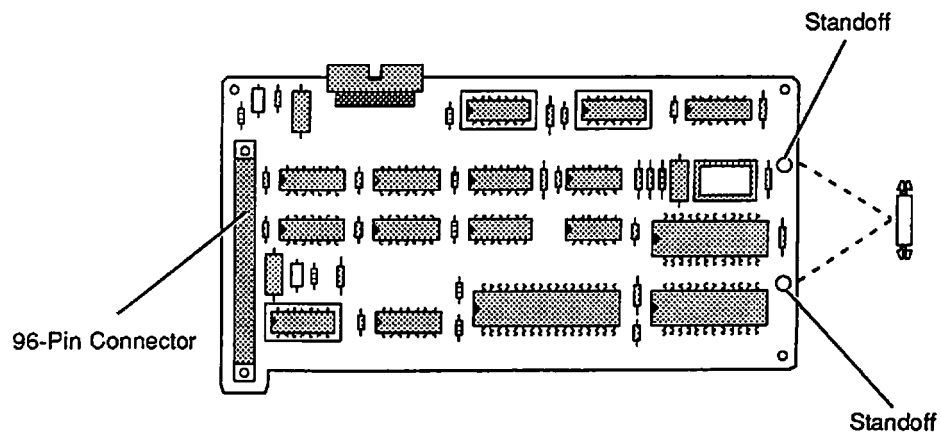
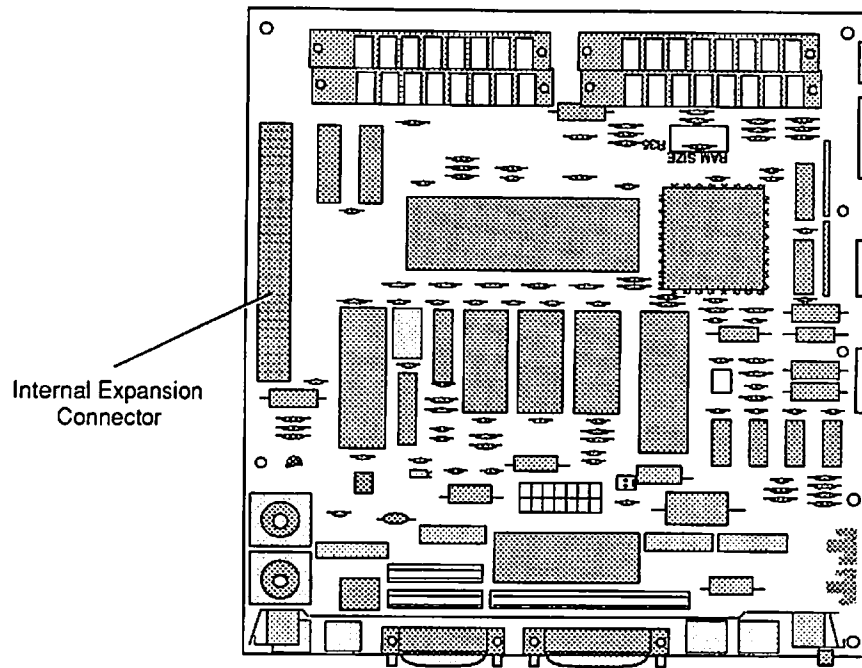

Figure 5-4 Positioning the Card
Figure 5-5 Logic Board
5. **Figure 5-4.** From the component side of the card, push the two plastic standoffs into the mounting holes until they snap into place.
6. **Figure 5-4.** Locate the 96-pin Euro-DIN connector on the card and the internal expansion connector on the main logic board (**Figure 5-5**). Turn the card component-side-down above the main logic board, and join the two connectors.